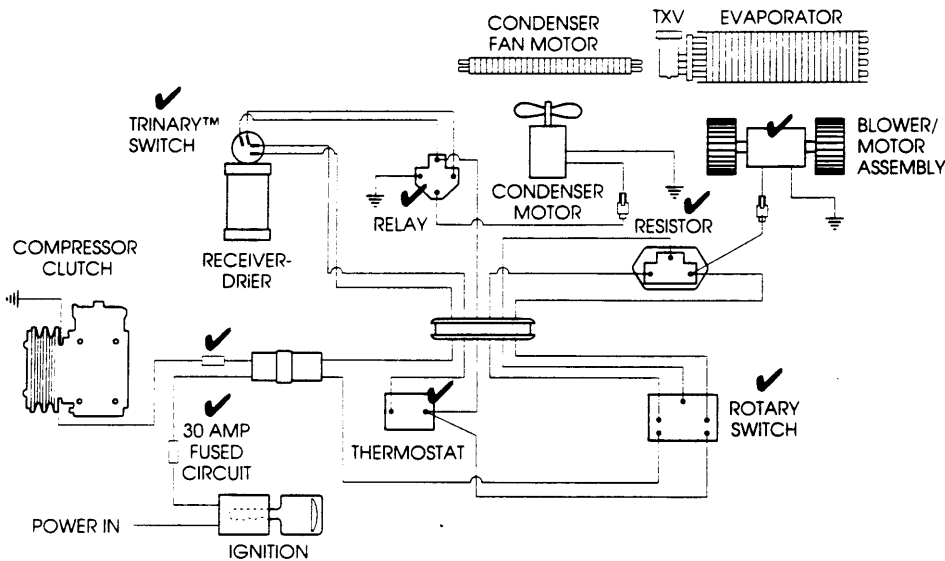

Figure 7-5
B. Turn the AC System On – This will power the thermostat and clutch. If it does not come on, use the AC mode switch to check the leads to the switch. You should be able to hear a “click” from the thermostat and hear the clutch drive plate “snap” against the clutch pulley. You can not check thermostat cycling on and off until you do the performance inspection. Figure 7-5 illustrates a typical AC electrical system and the places you should inspect.